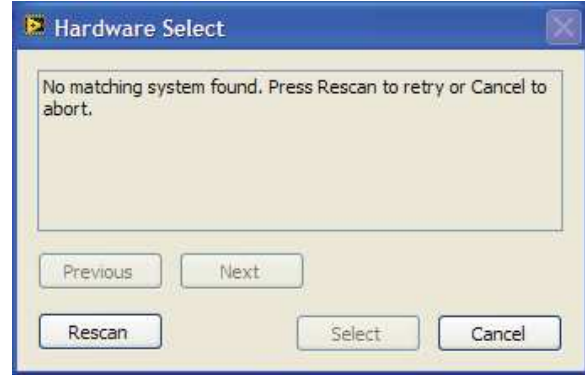

Figure 2. Pop-Up Window Error
2. Determine if the SDP board is connected to the USB port. If the SDP board is not connected to the USB port when the software is launched, a connectivity error is displayed (see Figure 2). Simply connect the evaluation board to the USB port of the PC, wait a few seconds, click **Rescan**, and follow the instructions.